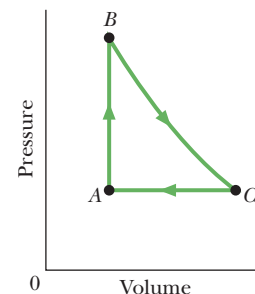

Figure 18-41 Problem 48.
••48 GO As a gas is held within a closed chamber, it passes through the cycle shown in Fig. 18-41. Determine the energy transferred by the system as heat during constant-pressure process  $CA$  if the energy added as heat  $Q_{AB}$  during constant-volume process  $AB$  is  $20.0$  J, no energy is transferred as heat during adiabatic process  $BC$ , and the net work done during the cycle is  $15.0$  J.